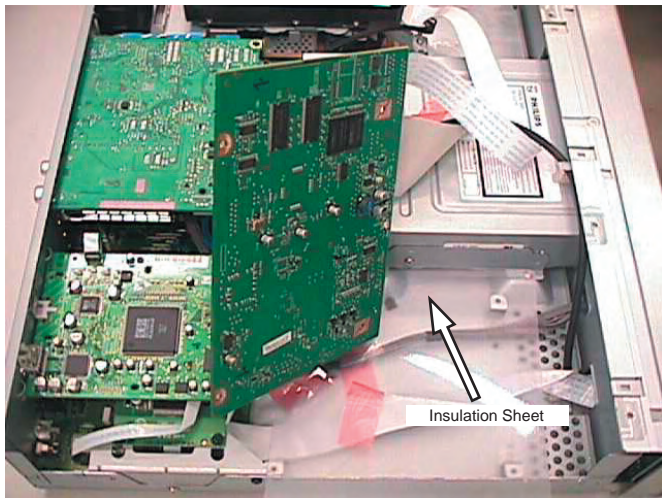

Figure 4-10: Digital Board Service Position
- 2) Service position for Digital Board is given in Figure 4-10.